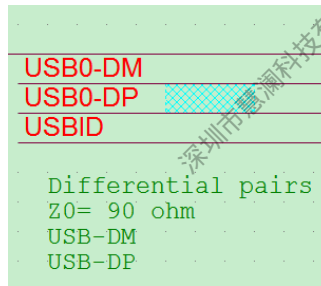

Figure 2-30 The Trace Impedance Requirement of USB Signal
- Mark the trace impedance requirement of the USB signal in the schematic diagram to facilitate PCB layout design. As shown in Figure 2-30.